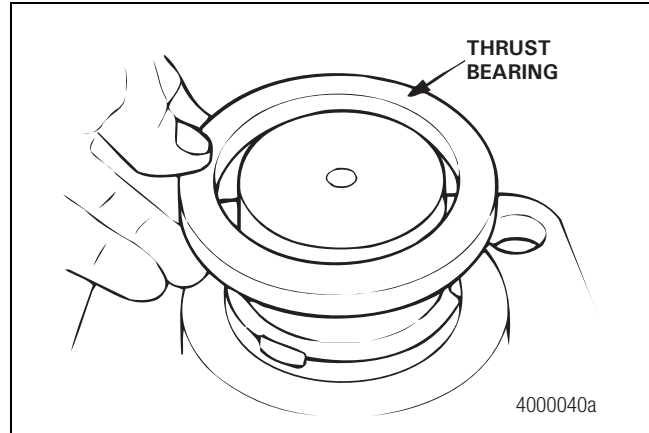

Figure 3.19
2. Remove the lower knuckle cap and inspect the thrust bearing for wear or damage. Replace a worn or damaged thrust bearing at reassembly. Figure 3.19.